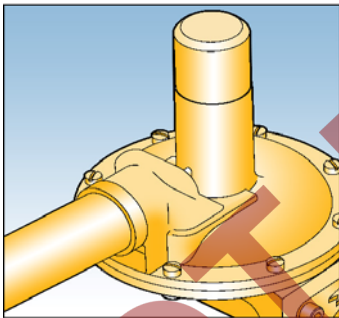

Fig. 3
2. Connect the vent line (1"), using a jointing compound approved to national standards, and lead to atmosphere in accordance with national standards. Ensure that no water can penetrate vent pipeline. See Fig. 3.